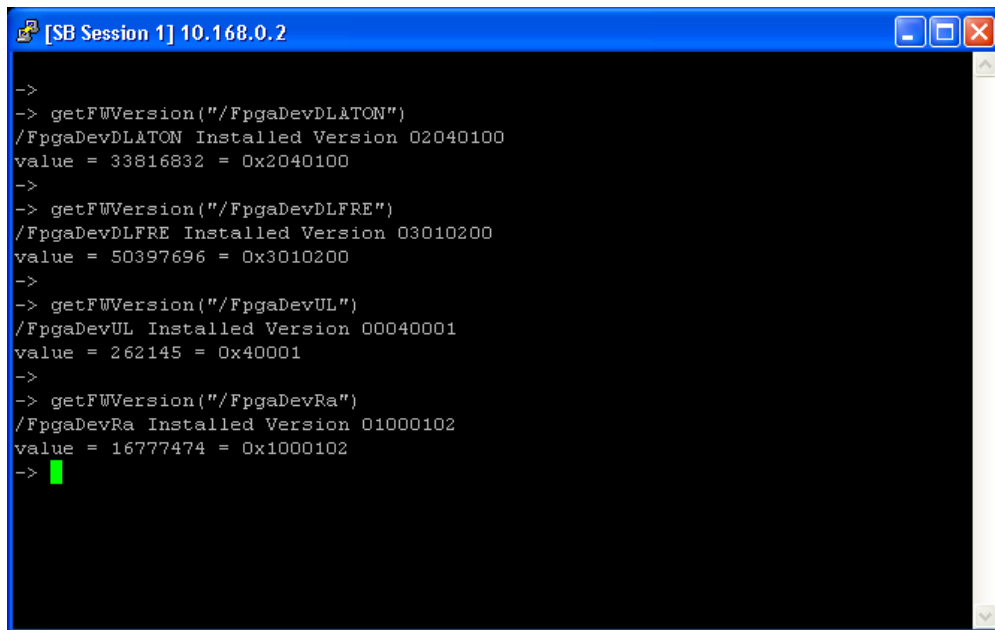

Figure 2-55: CAL Agent Icon
4. Right-click the **Cal Agent** icon in the Window System Tray and select **Generate**, as shown in Figure 2-55.